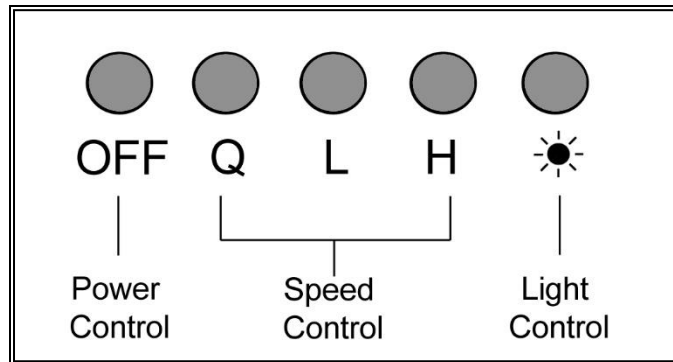

Figure 4
18. Attached the rubber plate and 6" round exhaust vent adapter to the exhaust opening and use 6 4\*16 screws to secure it. Refer to Figure 4.